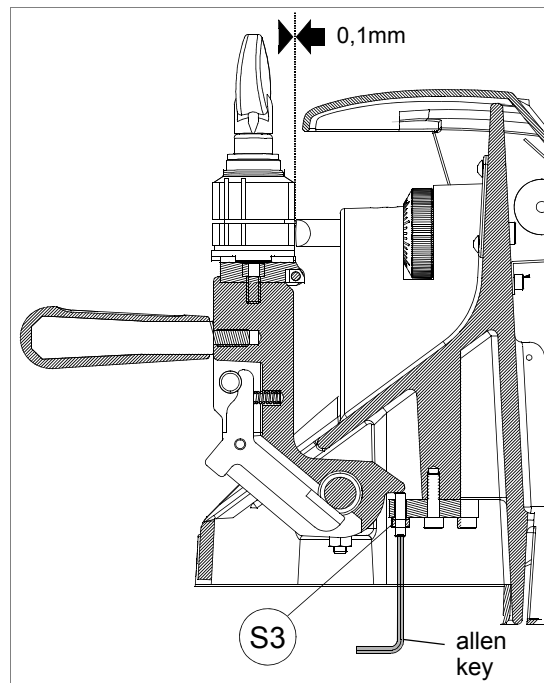

Fig. 70
- 1) Release the carriage, raise against the cutting tool and take to the end of its run (fig. 70)
- 2) Remove the chippings tray (S).
- 3) Release the nut (S3) (fig. 70) with the spanner.